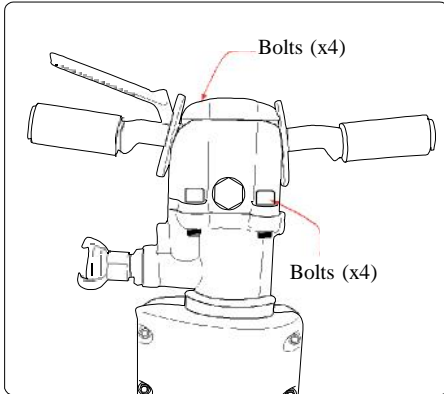
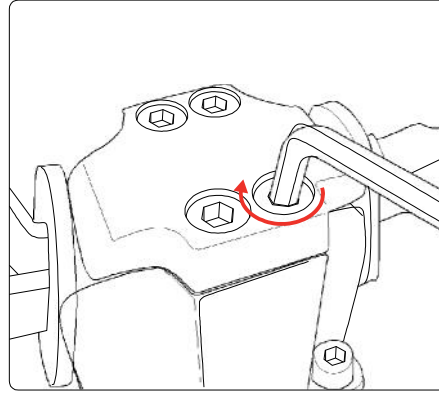

FIG1
FIG2
4. Check for bolts loosening (FIG1) and re-torque if necessary (FIG2&3)